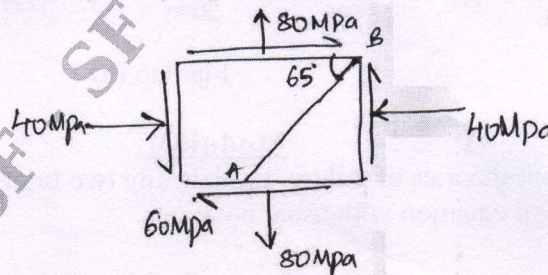

Fig. Q3 (b)
c. At a point in a strained material, the stresses are as shown in Fig. Q3 (c). Determine the